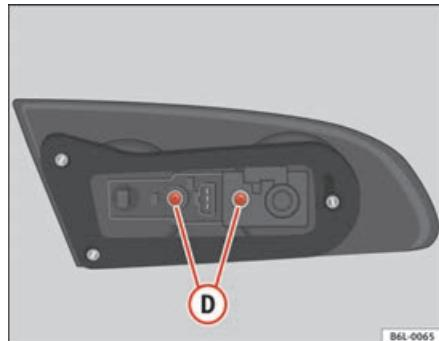

Fig. 165 Access to the lamp
- Unscrew the bolts **D** ⇒ fig. 165 and take the lamp holder out.